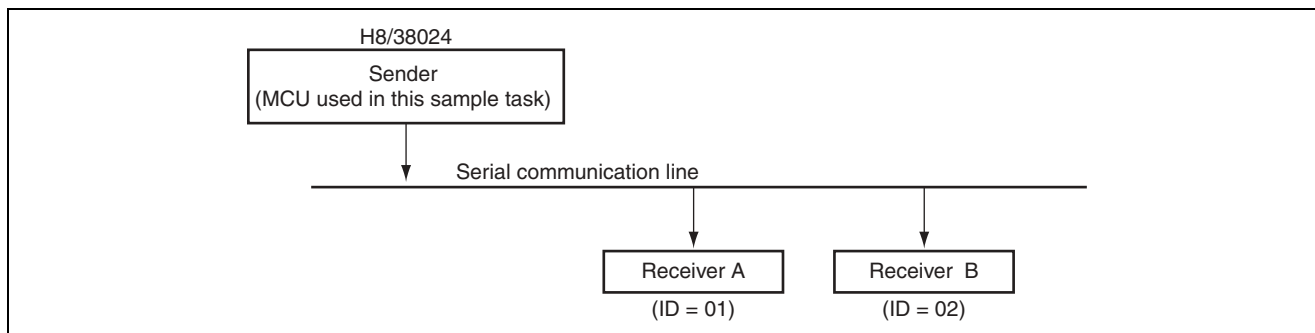

Figure 1.1 Multiprocessor Communication
- Using the multiprocessor communication function, data H'B8 is transmitted to receiver A and H'DE to receiver B as shown in figure 1.1.